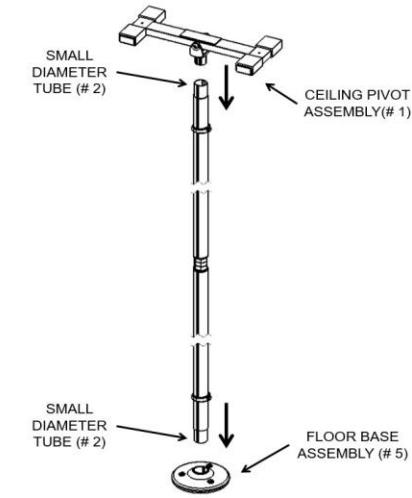

FIGURE 5
5. Insert the CEILING PIVOT ASSEMBLY (# 1) into the SMALL DIAMETER TUBE (# 2) as shown in Figure 5. **IMPORTANT: Remember that the Black color spring clip in the THREADED ASSEMBLY (# 4) must be installed closest to the ceiling.**
Place the FLOOR BASE ASSEMBLY (# 5) on the floor where the product is to be installed and then insert the other SMALL DIAMETER TUBE (# 2) into the FLOOR BASE ASSEMBLY (# 5) as shown in Figure 5.